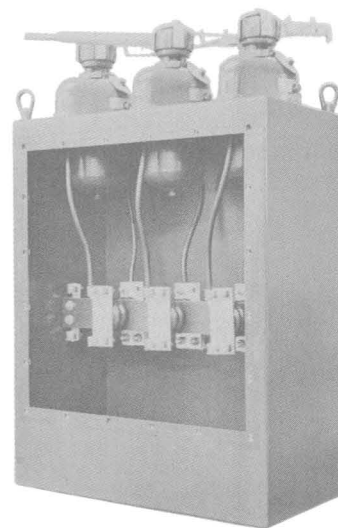

FIGURE 3
1. *Vented cutouts* (Fig. 3) are used in all areas not requiring watertight or explosion-proof equipment. Vented cutouts are not only more economical than sealed cutouts, but they can be used on the majority of applications. Gases generated as a result of load break or fault clearing are vented through the screen-filled tubes and baffles in the fuse-carrier hood (see Fig. 6). This prevents any external flame when relieving the internal pressure of arc interruption.
Figure 3 illustrates the porcelain bushing and flexible cable termination which is adaptable to connection to overhead lines or to enclosed wiring as in metal-enclosed assemblies.